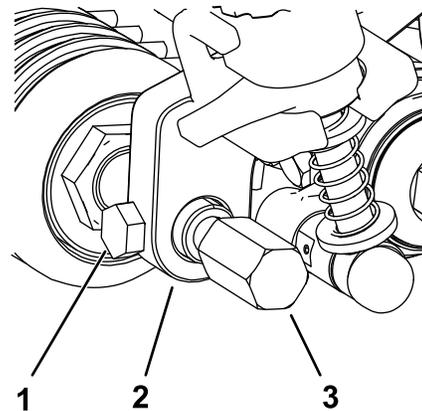

Figure 24
5. Insert and center the front roller shaft between the height-of-cut brackets and secure it with the 2 mounting screws removed from the old height-of-cut brackets (Figure 24).
6. Attach the groomer guards to either side of the front roller shaft (Figure 24).